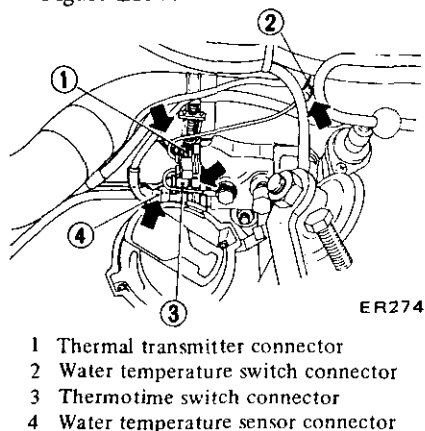

Fig. ER-7 Disconnecting wire for thermostat housing
- Wire to thermostat housing. See Figure ER-7.